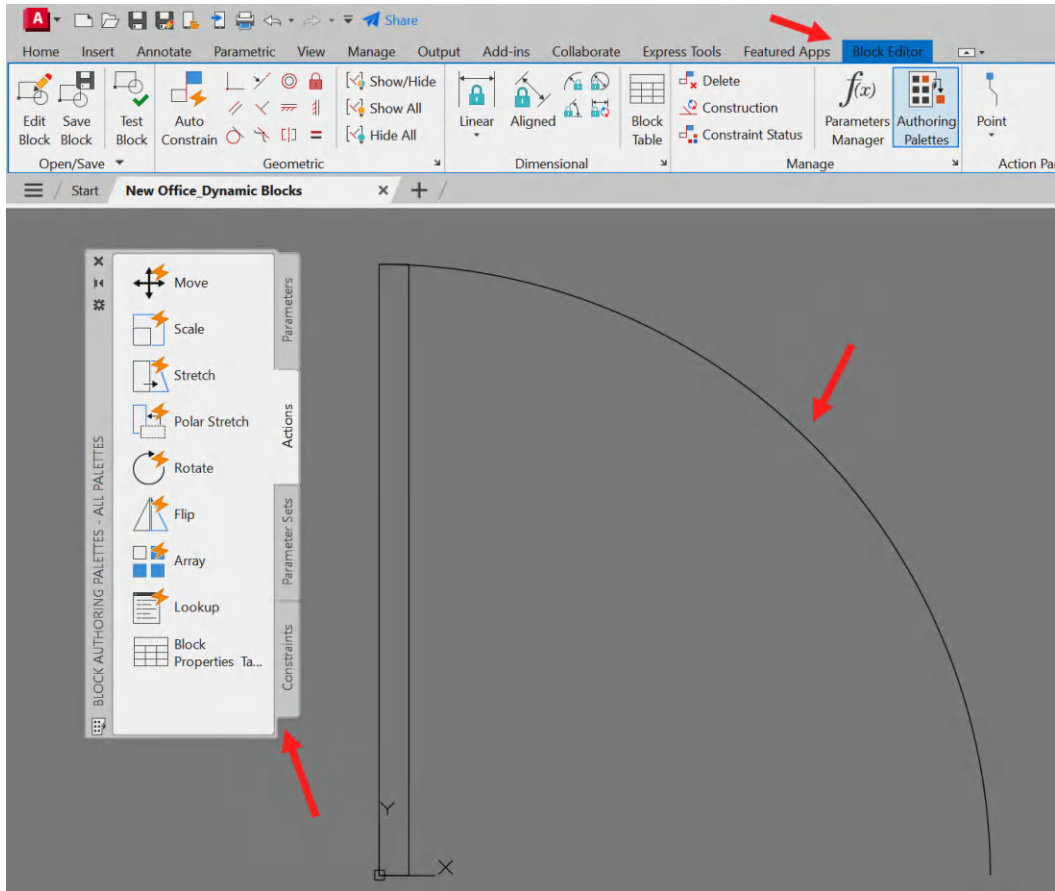

Figure 11.6: Block Editor open, ready to create the dynamic block
8. With the **Open in block editor** box checked, AutoCAD will open **Block Editor**, as shown in *Figure 11.6*.
In *step 8* of the previous section of this chapter, you checked **Open in block editor** in the **Block Definition** dialog box, before clicking on **OK**. This opened **Block Editor** in AutoCAD, as shown in *Figure 11.6*.